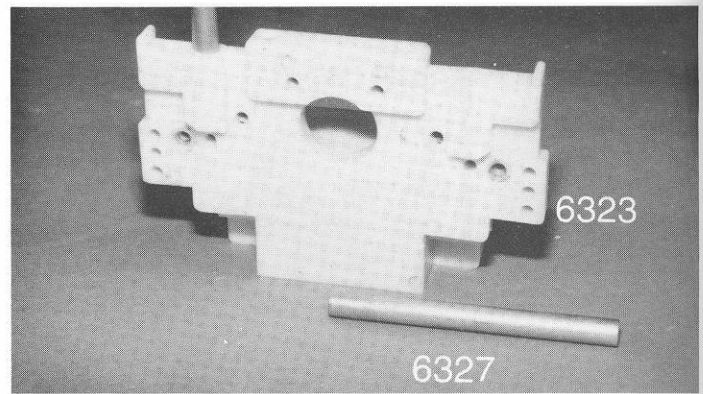

Fig. 78
□ **Fig. 78** In bag #6-4 you will find the #6323 nylon rear bulkhead and the two #6327 aluminum wing tubes. If the edges of the wing tubes are sharp, round them off with a file so that they will go into the rear bulkhead easier. You may have to tap the tubes into the bulkhead so that they will fit.